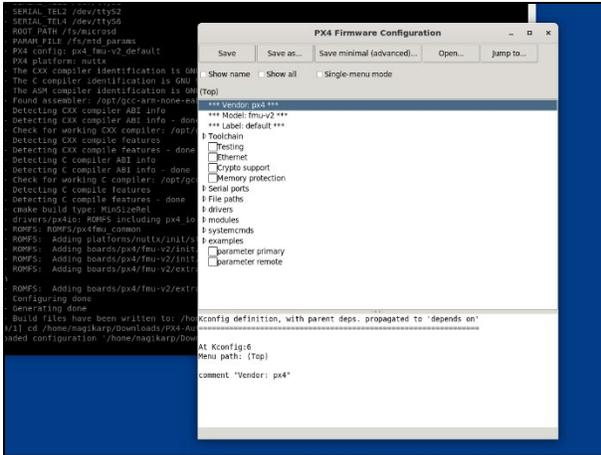

Figure 154 PX4 Firmware Configuration GUI
2. Open the board configuration GUI utility with the below command. After the compiler has finished running, you should see a window that looks like **Figure 154**.